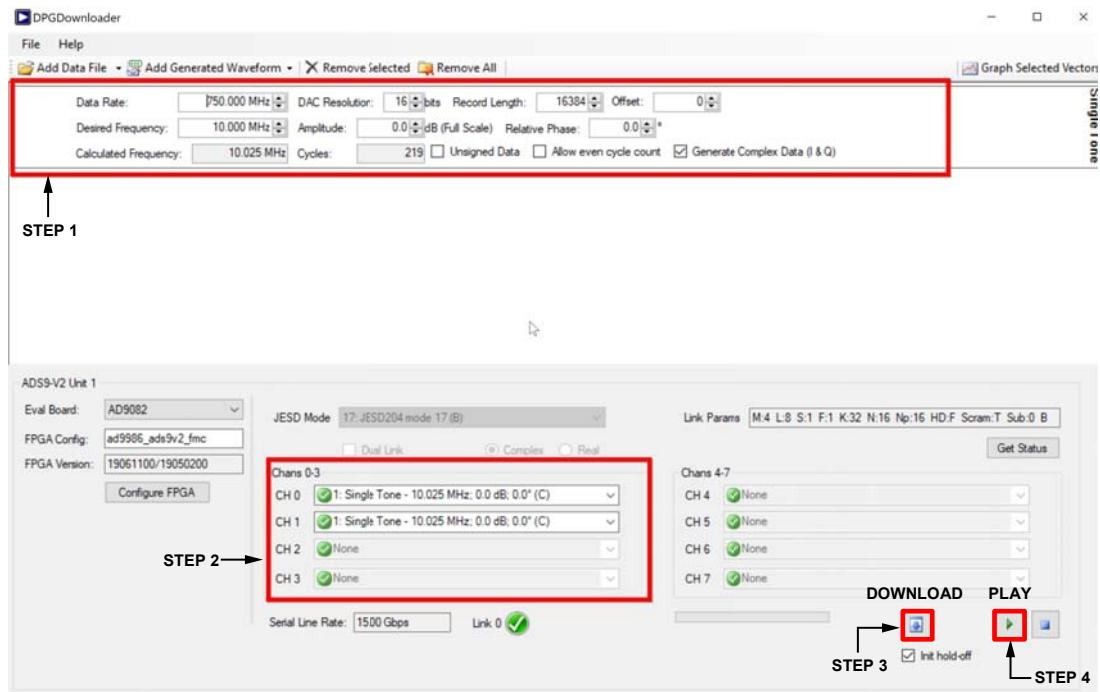

Figure 22. Downloading the Single-Tone Signal to the DAC
- At the top of the window, enter or verify the following data values, as shown in Figure 22:
- Select the channels. In Figure 22, two channels are selected.